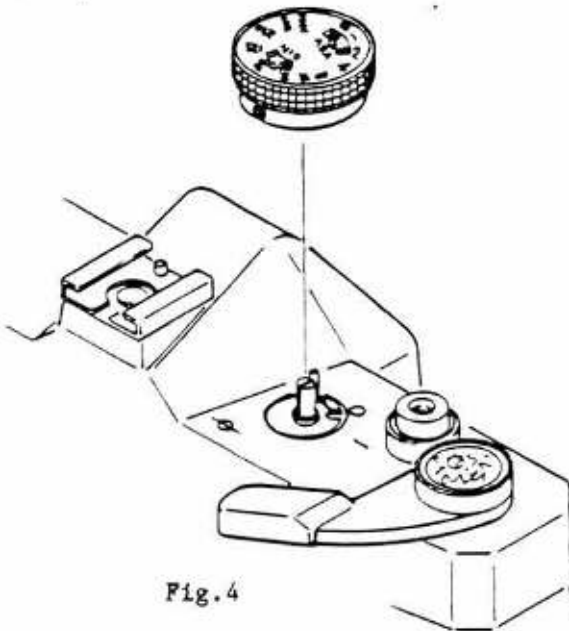

Fig. 4
- 2) Turn OTL1781K2 Pulley assembly for approximately 360° counterclockwise from the position where Chainlet is not wrapped round Pulley assembly as shown in Fig. 4